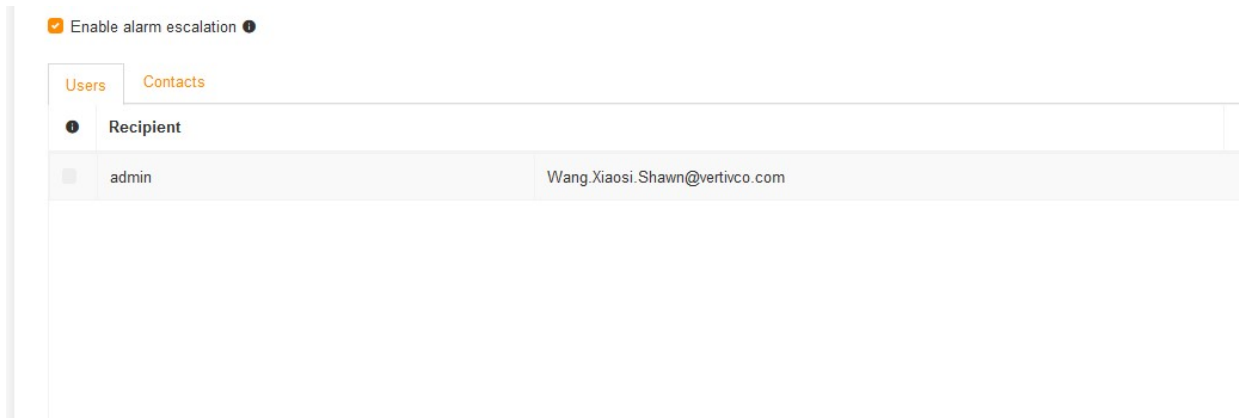

Figure 16-19 Configuring alarm escalation
2. Select **Enable alarm escalation**, and select **Recipient**, as shown in Figure 16-19.